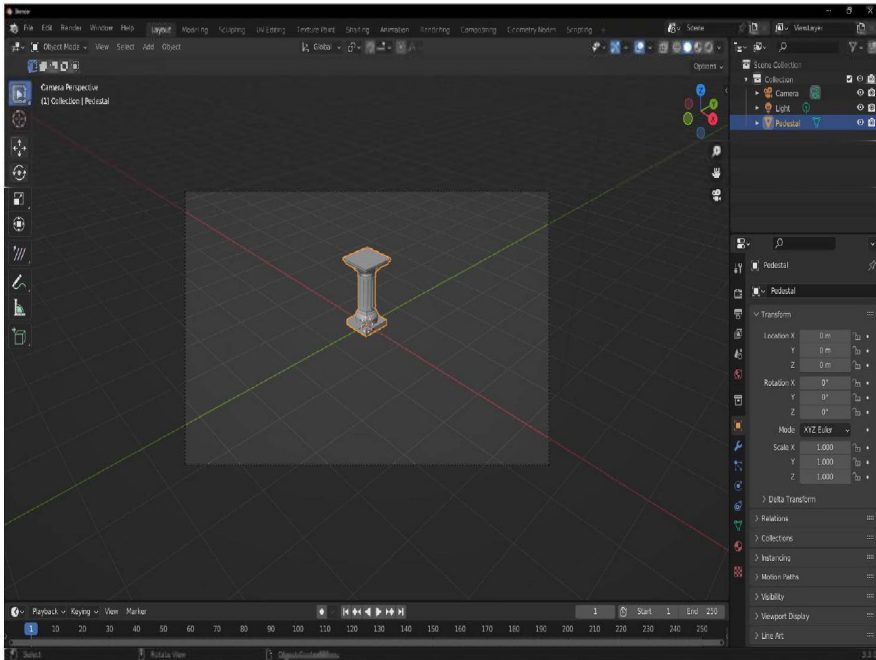

Figure 10.2: Pasted Pedestal object from earlier exercise, framed within the view plane of the Active Camera
8. With an **Active Camera** in the scene, to see the scene through the camera's "frustum" or **front view plane**, press the Number pad key **0** as shown in *Figure 10.2*.